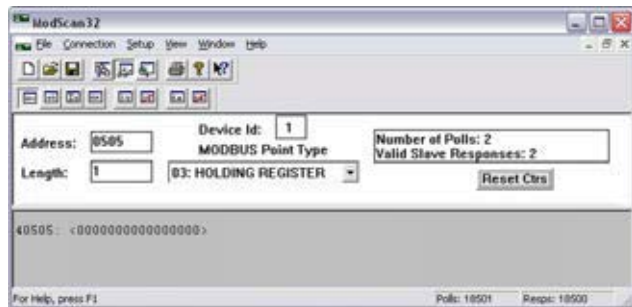

Fig. 246: ModScan32 single bit view
1. Using the "display options" set the format to binary to view single bits (Fig. 246).